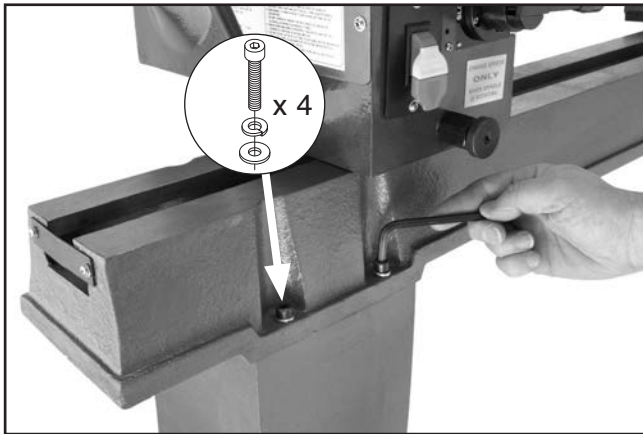

Figure 9. Example of securing lathe bed to stand legs.
1. Position (2) stand legs upright approximately 46" apart and get them reasonably aligned.
2. Use help of additional people to carefully lift lathe bed onto stand legs, then secure lathe bed to legs with (8) M8-1.25 x 30 cap screws, 8mm lock washers, and 8mm flat washers (see **Figure 9**).